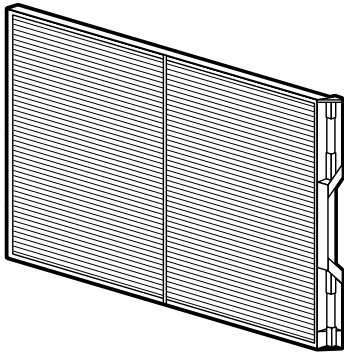
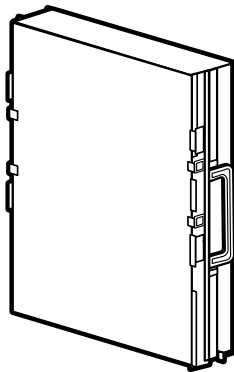

Figure 30 Pre-Filter
Figure 31 Collection Cells
- Remove the PRE-FILTER (Figure 30) and/or the COLLECTION CELLS (Figure 31) from the air cleaner.
The clean/dirty LED light bar indicator will illuminate as the system cleans the air. The LED lights will progress from green to yellow and then to red. When the last red indicator is flashing, it is time to clean the COLLECTION CELLS (see Figure 31). The air cleaner is factory set to notify the home owner to clean the COLLECTION CELLS every six months [31 weeks] of actual run time of the air cleaner. This notification can be changed by the installer/home owner to 2 months, 4 months, 6 months, or 9 months [10, 20, 31, or 46 weeks] depending on the conditions in the home (pets, smokers, etc.). Please see “SET-UP MODE” (Page 13) to change the factory settings.